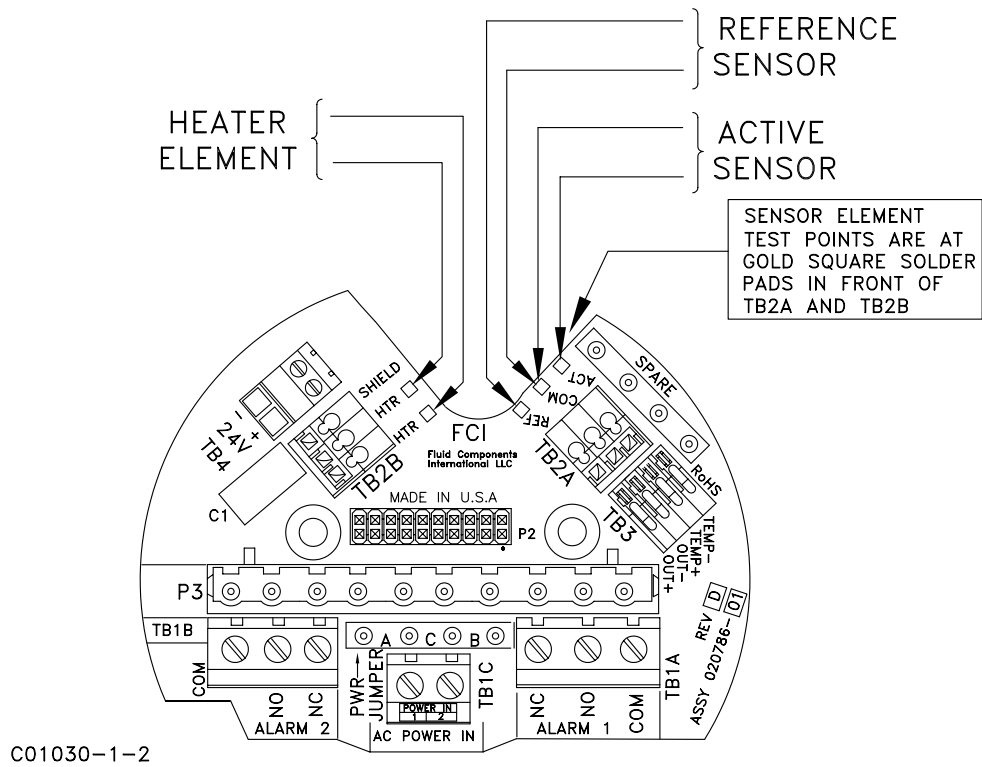

Figure 23 – Terminal Board, Test Points
- See the troubleshooting chart in Figure 23 at the end of this section.
(See Fig. 23 for test points)